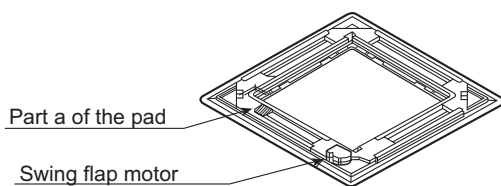

Fig. 5
- ② Install part a of the pad on the place shown in Fig. 5. Refer to Fig. 6.